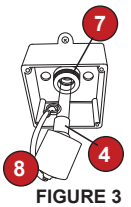
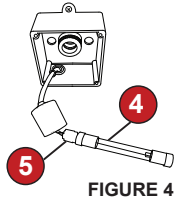
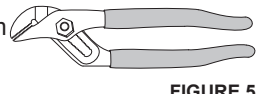
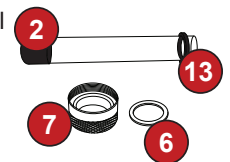

FIGURE 3
FIGURE 4
FIGURE 5
FIGURE 6
2. Once the UV bulb has cooled off remove the CLEARARRAY System enclosure cover (10) and gasket (9) by removing the four screws (11).
3. Remove the black bulb boot (8) by sliding it over the cable away from the quartz seal compression nut (7), Figure 3.
4. Slowly remove the UV bulb (4) out of the quartz tube.
5. Remove bulb socket (5) from the UV bulb (4), Figure 4.
6. Remove the quartz seal compression nut (7) by turning it **counterclockwise**, Figure 3. Use a pair of channel-lock pliers if needed, Figure 5. You will notice that there is a stainless steel compression washer (6) which slides over the quartz tube, save the washer (6) for later use, Figure 6. There is also a black seal ring (13), grasp the black seal ring; slowly and carefully remove the quartz tube.
7. Now you are ready to clean or replace the quartz tube (2). For the cleaning quartz tube (2), follow steps 8 and 9 then proceed from step 10. For replacing quartz tube (2), skip steps 8 and 9 and proceed from step 10.
10. **Replacing quartz tube:** You will notice that the new quartz tube does not have a black cushion on the domed end as the old quartz tube does. This is normal as the cushion was provided to the original quartz tube to protect it from breakage during transportation. Install the black seal ring (13) over the opened end of the quartz tube. Place the new quartz tube (2) into the water chamber (1) with the domed end first making sure it is inserted and seated inside the quartz end holder. Only a small portion will be exposed when it is seated correctly.
11. Reinstall the compression washer (6) over the open end of the quartz tube (2). Push it against the quartz black seal ring (13).
12. Reinstall and hand tighten the quartz seal compression nut (7) by turning it **clockwise**.
14. **System Test 1:** Assure there is no water dripping from the seal compression nut (7). If water is visible, STOP and tighten the compression nut (7) using a pair of channel lock pliers to a maximum of 1/4 turn. If that does not fix the leak, then repeat quartz tube maintenance process from step 1 through step 13. Make sure there is no water leaking BEFORE proceeding to step 15.
16. Reconnect the bulb socket (5) to the new UV bulb (4) make sure you use the latex glove provided when handling the UV bulb. **NOTE:** Align pins on UV bulb (4) to the receptacle holes on the bulb socket (5) before inserting the pins completely into socket holes. Failure to do so will damage the UV bulb.
17. Slide the new UV bulb (4) back inside the quartz tube, Figure 3.
18. Reinstall the black bulb boot (8) back over the quartz seal compression nut (7).
19. Reinstall the enclosure cover (10) with gasket (9) and secure with the screws.